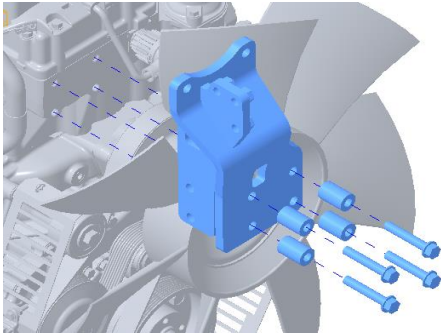

Figure 10
9. Loosely assemble the ATD mount bracket (10) on exhaust fan side as shown in the figure 10 using M12X30 (24), M12 spacers (17) and M12X70 bolts (26).